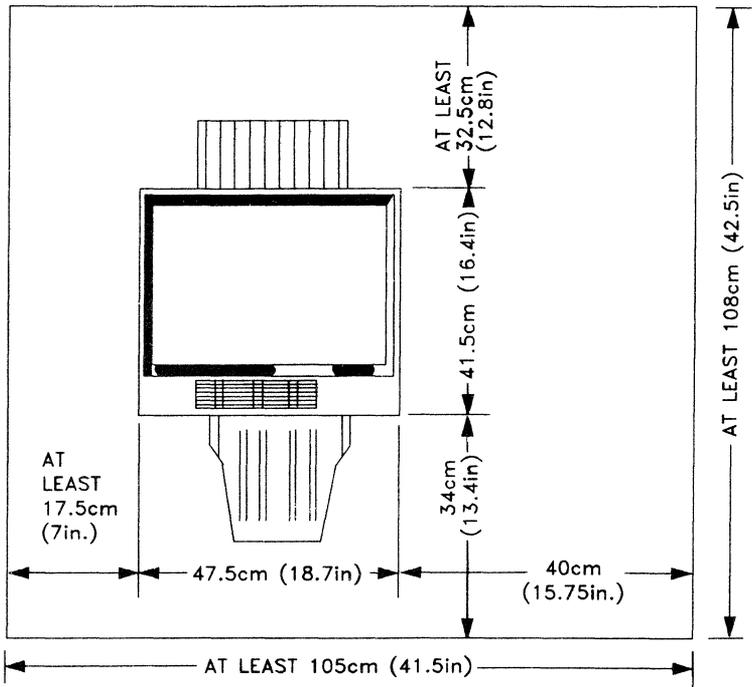

Figure 2: Space Requirements
2. It should be located where there is sufficient space to permit unimpeded operation. Refer to Figure 2 for recommended space requirements for the printer.